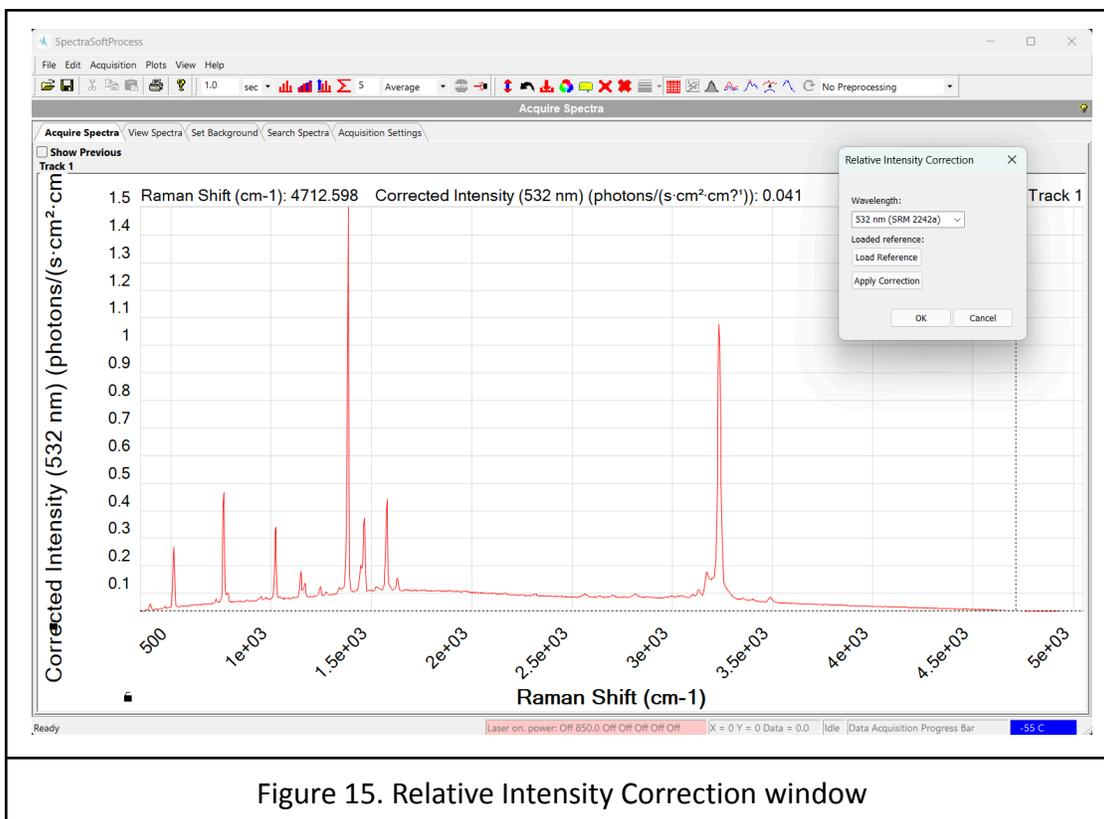

Figure 15. Relative Intensity Correction window
- b. In order to apply the correction, the user must select the wavelength they are using, as well as take a reference using the standard reference material and upload that using the Load Reference button (Figure 15).